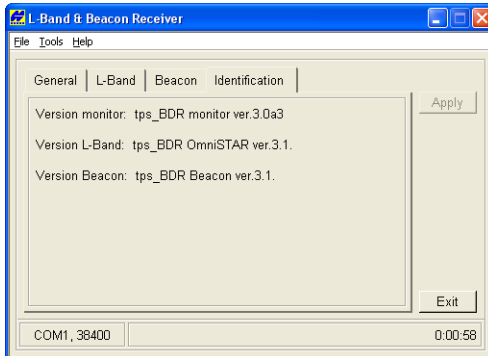

Figure 3-24. About OmniSTAR/Beacon
2. Click the **Identification** tab for OmniSTAR/Beacon board version information (Figure 3-24).